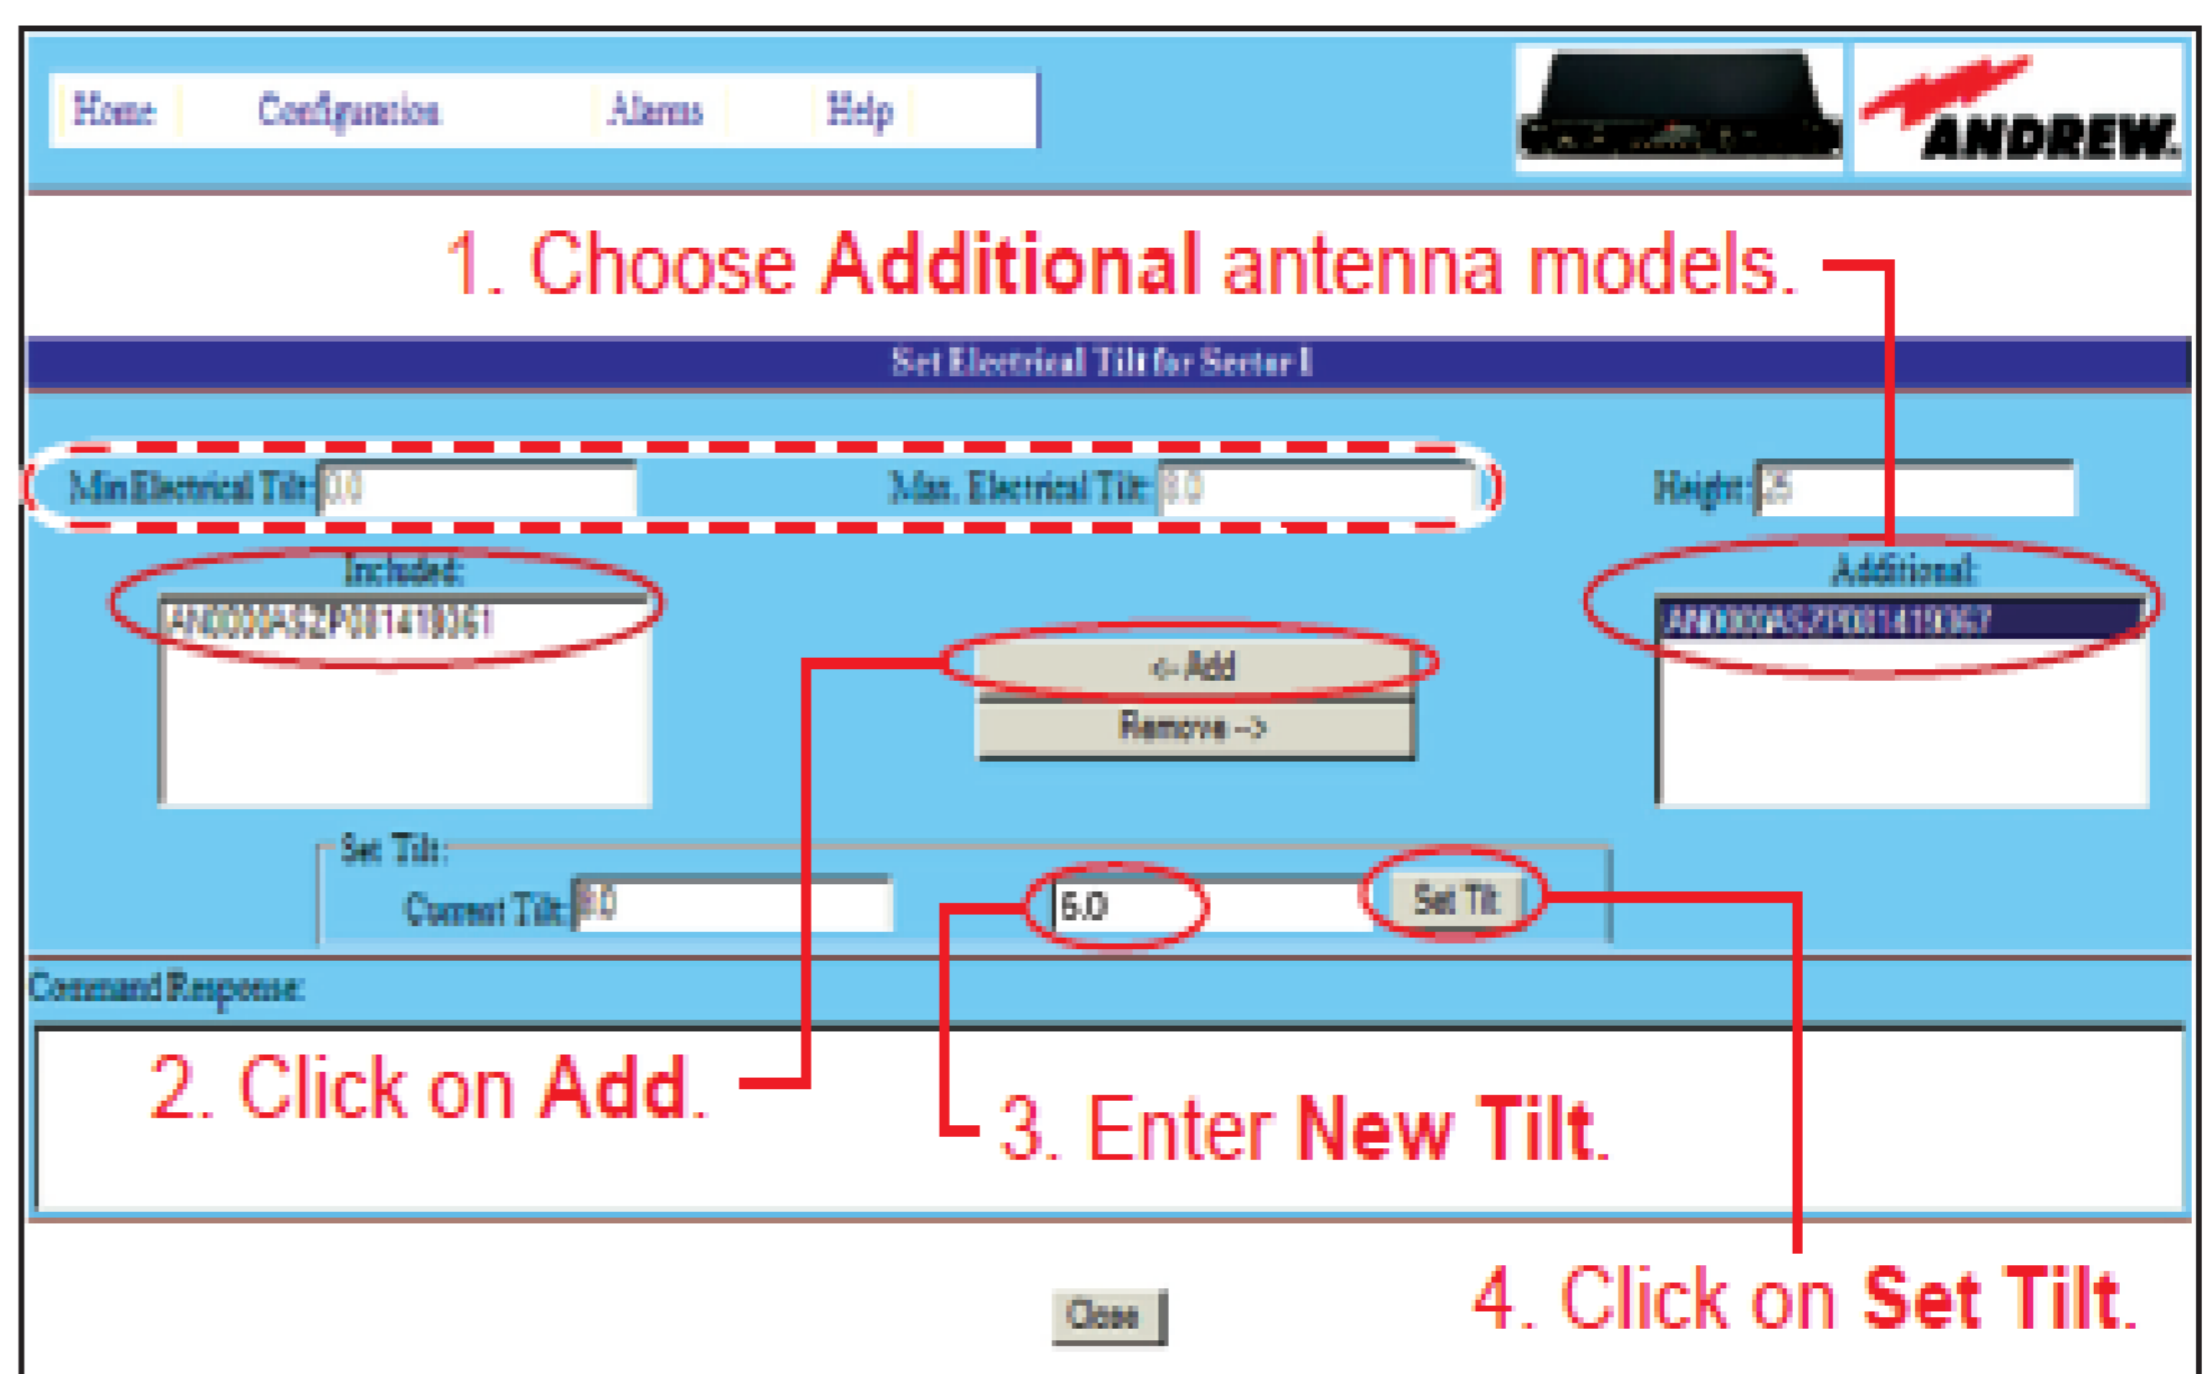

Figure 4-2. Adjusting tilt for antennas in the same sector.
Click on a device that is to be included in the sector move, and click **Move Sector** (Screen 1). The dialog box to **Set Electrical Tilt for Sector x** appears (Figure 4-2).
- Click on the **Additional** models, one at a time, to be included in the sector move (Figure 4-2). Antennas are listed in the Additional box only if they have the same sector and tilt range as the selected antenna.